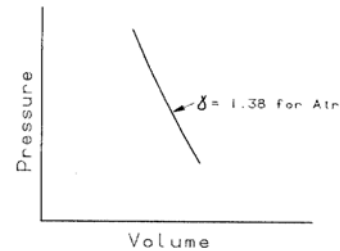

Fig. 2.5 Adiabatic non-flow process
F. Adiabatic, Non-Flow Process: This is defined as a process with no heat transferred to or from the working fluid (see Fig. 2.5).